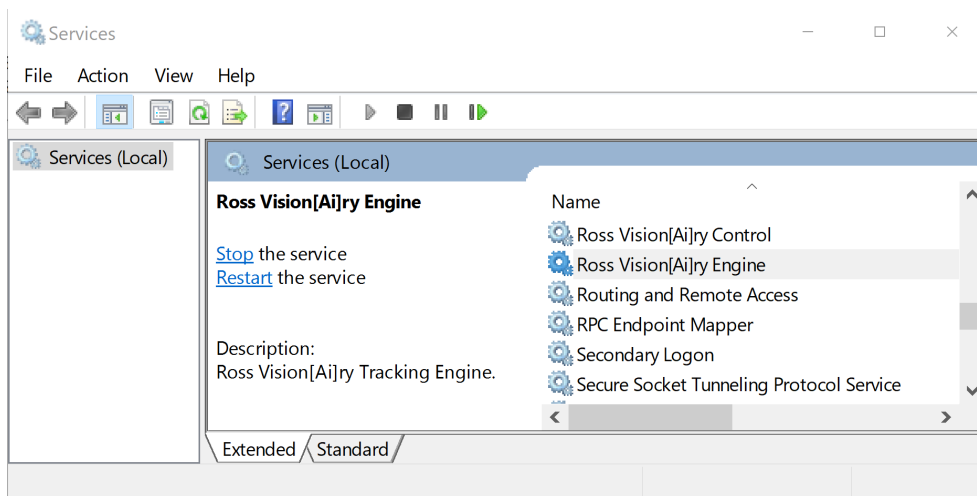

Figure 109 - Windows Services Application, with the Ross Vision[Ai]ry Ft Control Service Selected
- a. From the Windows **Start** menu, open the **Services** application (Figure 109).